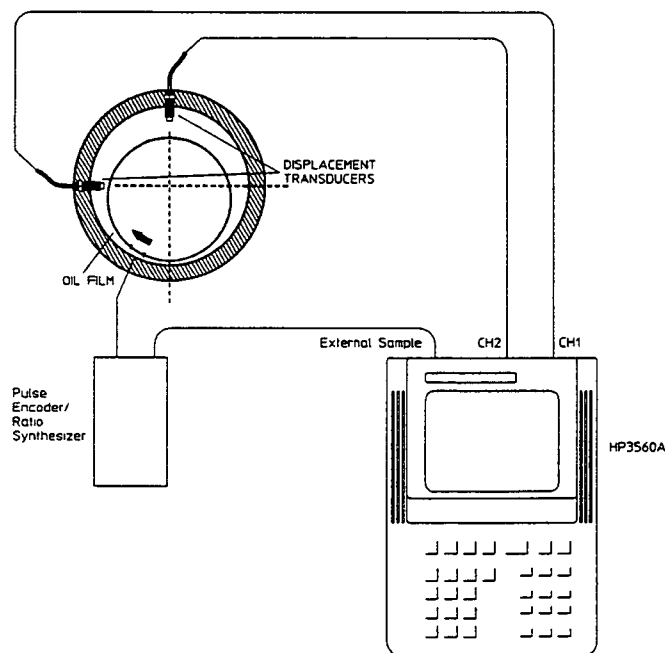
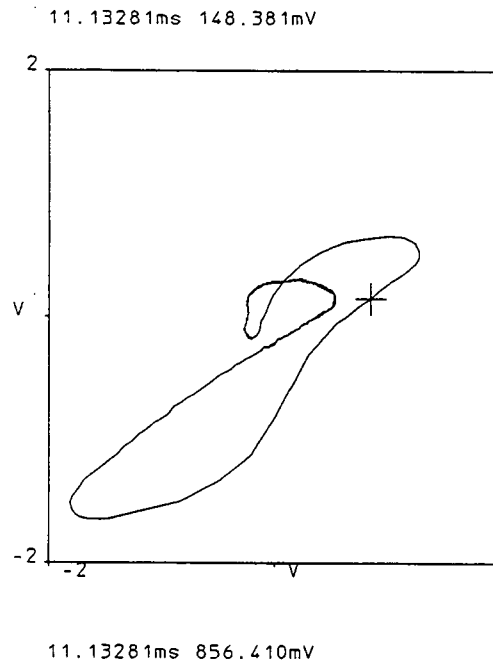

Figure 5-25.
Figure 5-26.
Select [ORBIT] when you want to compare two input time waveforms in a Lissajous pattern. [ORBIT] displays y-axis data from trace A versus y-axis data from trace B. One of its uses is detecting assymetries in rotating machinery. Figure 5-25 shows a typical shaft motion measurement setup. The displacement transducers are placed orthogonally and measure the shaft motion versus time. Figure 5-26 shows a typical orbit display which represents the motion of the shaft centerline. If you use external sampling, the display sampling can be synchronized to shaft rotation angle rather than time. Do this by attaching a shaft encoder directly to the rotor or a ratio synthesizer which synthesizes the pulses from an external tachometer signal as in figure 5-25. For example, if the pulse encoder gives 256 pulses per revolution, you would enter 256 under external sample in the [Freq] menu. Then each point on the orbit diagram would represent $360^\circ/256$ or 1.4° .
1. Set up your measurement similar to figure 5-25.